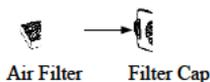

Fig. 11-1
- (1) Attach the air filter to the filter cap, as shown in Fig.11-1.